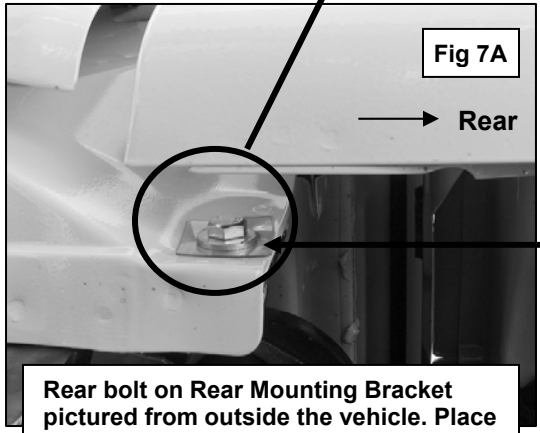
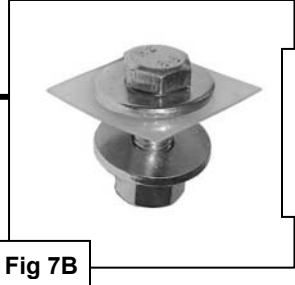

Fig 7A
Fig 7B
7. Hang the driver side Rear Mounting Bracket from the Bolt Plate and Retainer and secure it with the included (1) 12mm Lock Washer, (1) 12mm Flat Washer, and (1) 12mm Hex Nut. Insert (1) 10mm x 35mm Hex Bolt, (1) 10mm Flat Washer with (1) 9mm Plastic Retainer into the hole at the rear of the Mounting Bracket from the outside-in, **(Figure 7A)**. **NOTE:** The Plastic Retainer is intended to protect the outer painted surface of the body. Thread the Plastic Retainer onto the Hex Bolt so that it is between the 10mm Flat Washer and the body, **(Figure 7B)**. Secure the Bracket with (1) 10mm Lock Washer, (1) 10mm Flat Washer and (1) 10mm Hex Nut. Do not tighten hardware at this time.
8. Attach the Sidebar to the Mounting Brackets using the included (2) 1/2" x 2" Hex Head Bolts, (2) 1/2" Flat Washers, and (2) 1/2" Lock Washers. Do not tighten hardware at this time.